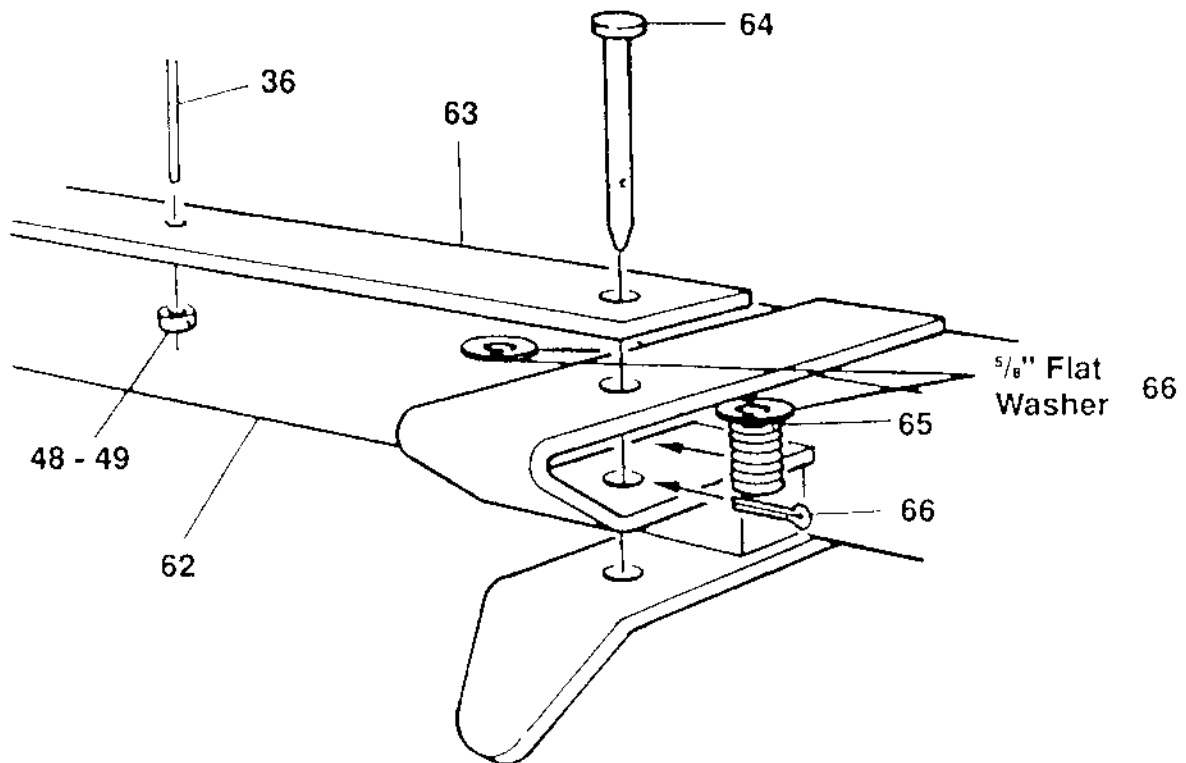

Figure 1
3. Assemble the PUSH BEAM ASSEMBLY (Ref. No. G, Fig. 1) as shown.
PUSH BEAM ASSEMBLY PARTS LIST (FIGURE 1)